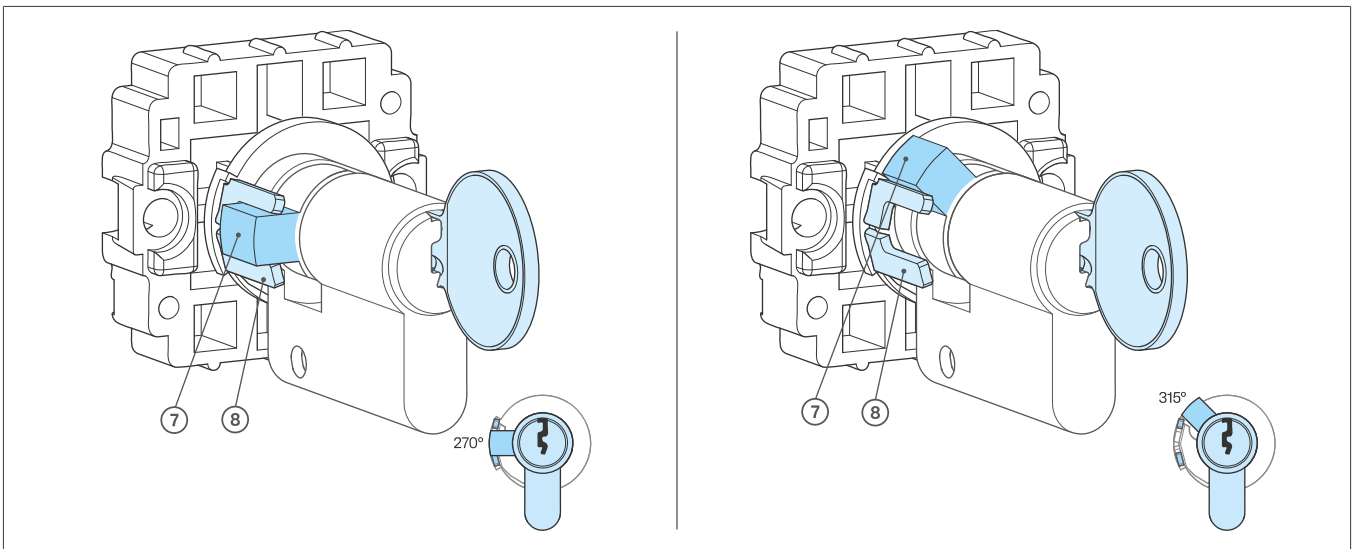

Fig. 3: Positioning of the lock bit
In order to change the switching position, the lock bit (7) can be guided in the clevis (8) of the switch/push-button insert (Fig. 3, left) or can contact the clevis laterally (Fig. 3, right).